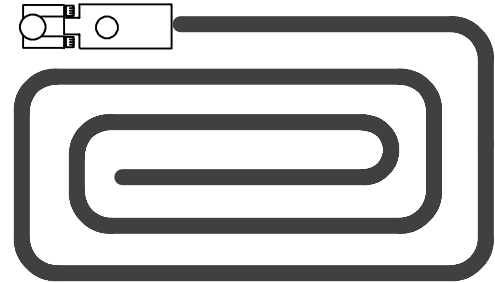

FIG. 9
2. Use a collapsing rectangle pattern when cleaning large rooms (Figure 9).